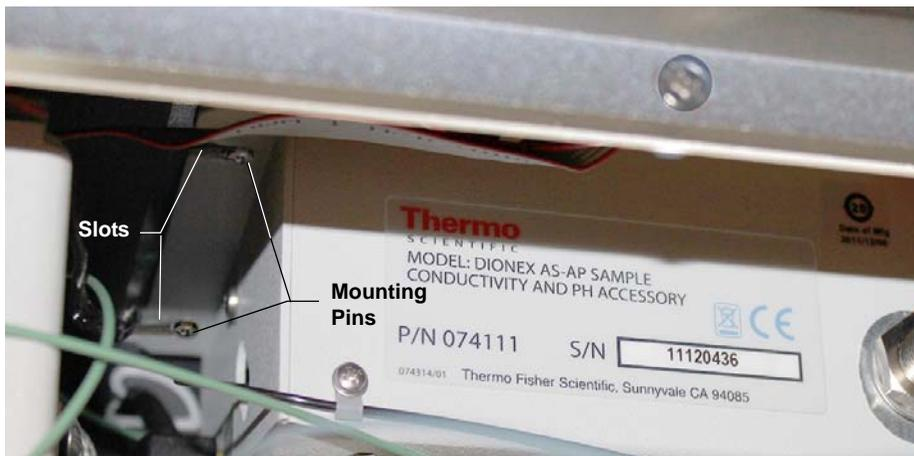

Figure 7. Mounting the Accessory to the Top Cover of the Dionex AS-AP (Left Side View)
- Slide the slots on the top left side of the accessory over the mounting pins (see Figure 7).